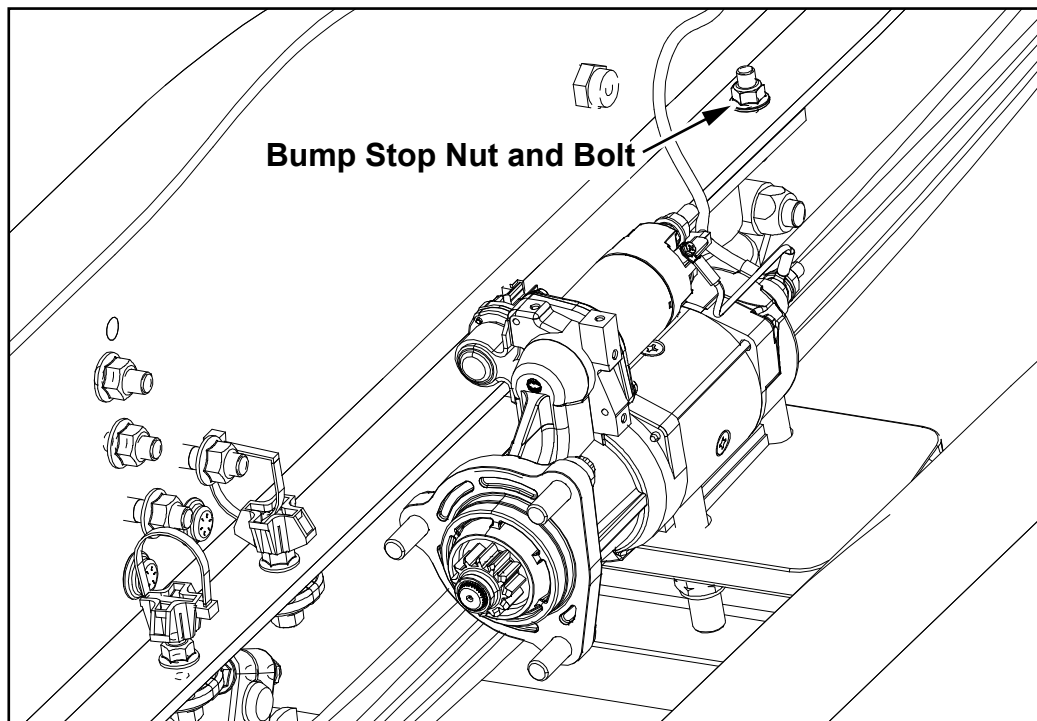

Figure 3
5. Remove and discard the forward bump stop bolt and nut (see *Figure 3*).